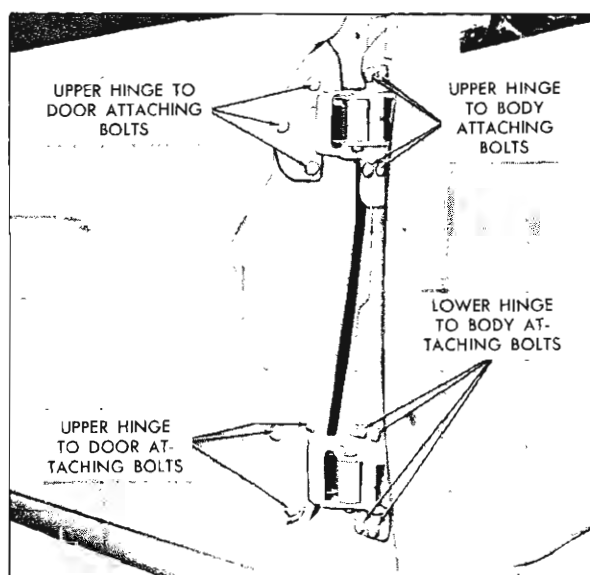

Fig. 3-17 Front Door Hinge Attachment
5. With door properly supported, remove bolts securing upper and lower hinges to front body hinge pillar or door hinge pillar. Then with aid of helper, remove door assembly from body (Fig. 3-17).
1. For in and out or up and down adjustments, loosen hinge to door pillar attaching bolts (see Fig. 3-17). Adjust door as required and tighten bolts.
**NOTE:** When performing in and out adjustments, adjust one (1) hinge at a time so as not to disturb up and down adjustment.
2. To adjust rear fore and aft, loosen hinge to body pillar attaching bolts (see Fig. 3-17). Adjust door as required and tighten bolts.
**NOTE:** One (1) or more of the attaching bolts are not accessible due to inadequate wrench clearance. When fore and aft adjustments are performed, therefore, the recommended procedure is to remove the obstructing attaching bolt and perform adjustments with the remaining three (3) bolts. After satisfactory adjustments have been made, replace the previously removed bolt. The removal of the obstructing bolt and subsequent adjustments can best be accomplished with a ratcheting box socket wrench.